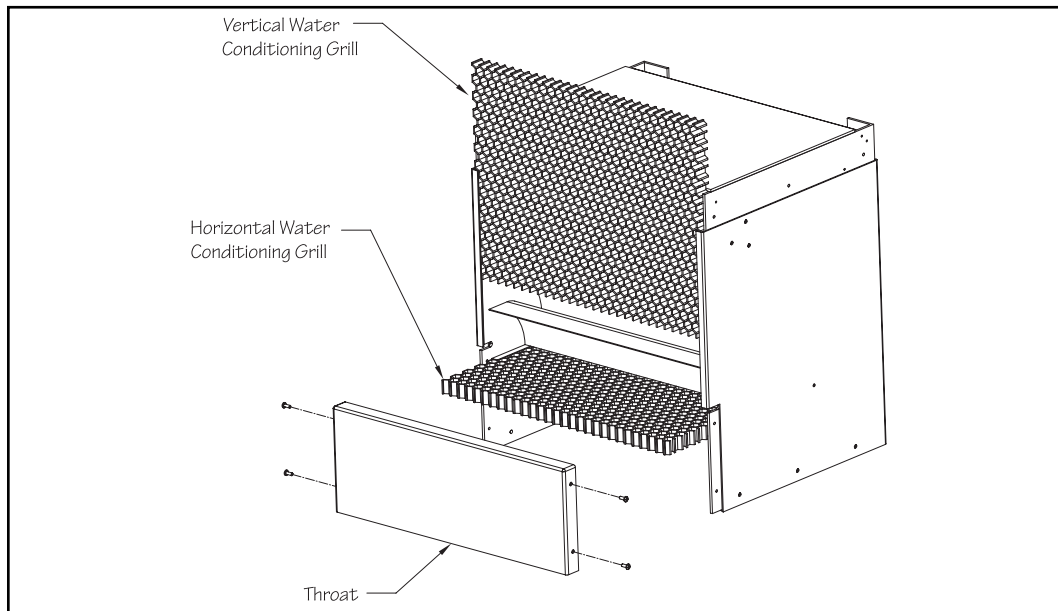

Fig. 6.3
6.4 Remove the throat from the upper housing. There are two screws on each side of the throat. Pull the throat off of the housing and set it aside. Pull the vertical water-conditioning grill up and out of the housing. Pull the horizontal grill out of its track and remove from the housing. Make sure to remove and discard the wood 2x4 spacer from the bottom of the housing before proceeding (Fig 6.3).